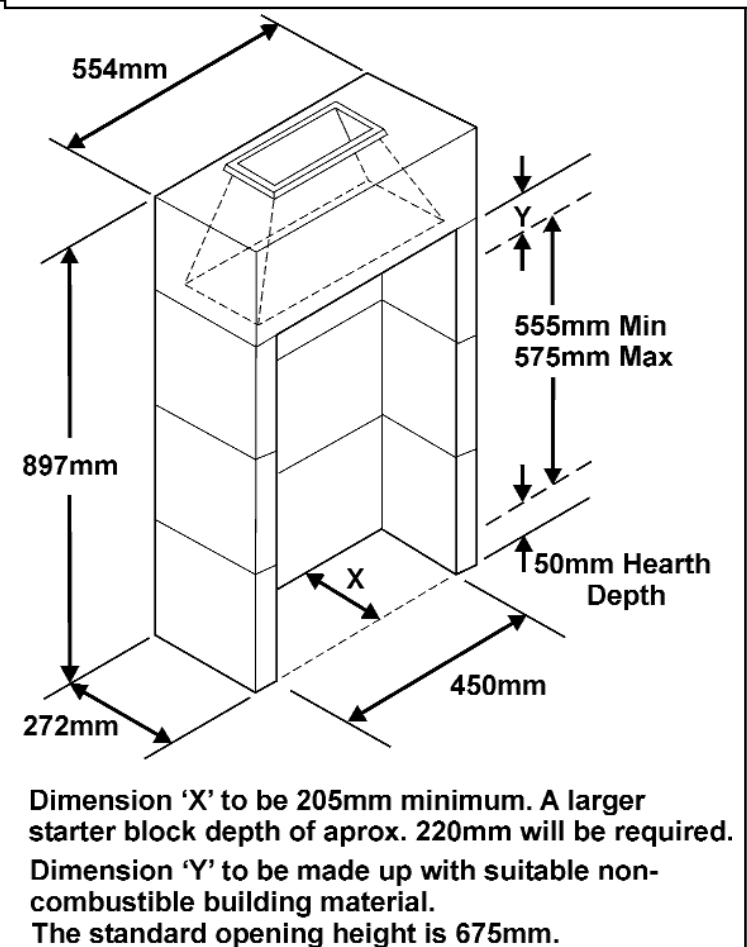

Figure 3. Precast or clay flue block system dimensions
4.2.4 A precast concrete or clay flue block system conforming to BS1289 or BS EN 1806 with dimensions as in figure 3 or using a 05654K1 spacer kit. (Installation Instructions part number 3003095). The current versions of BS1289 and BS EN 1806 recommend that there should be an air space or insulation between the flue blocks and the plaster because heat transfer may cause cracking on directly plastered flues. However, generally this appliance is suitable for installations under all circumstances unless there is a history of cracking problems. Remember that faults such as cracking may be caused by poorly built and restrictive flues, e.g. mortar extrusions, too many bends, flue heights below three metres, restrictive terminations etc (See figure 3).